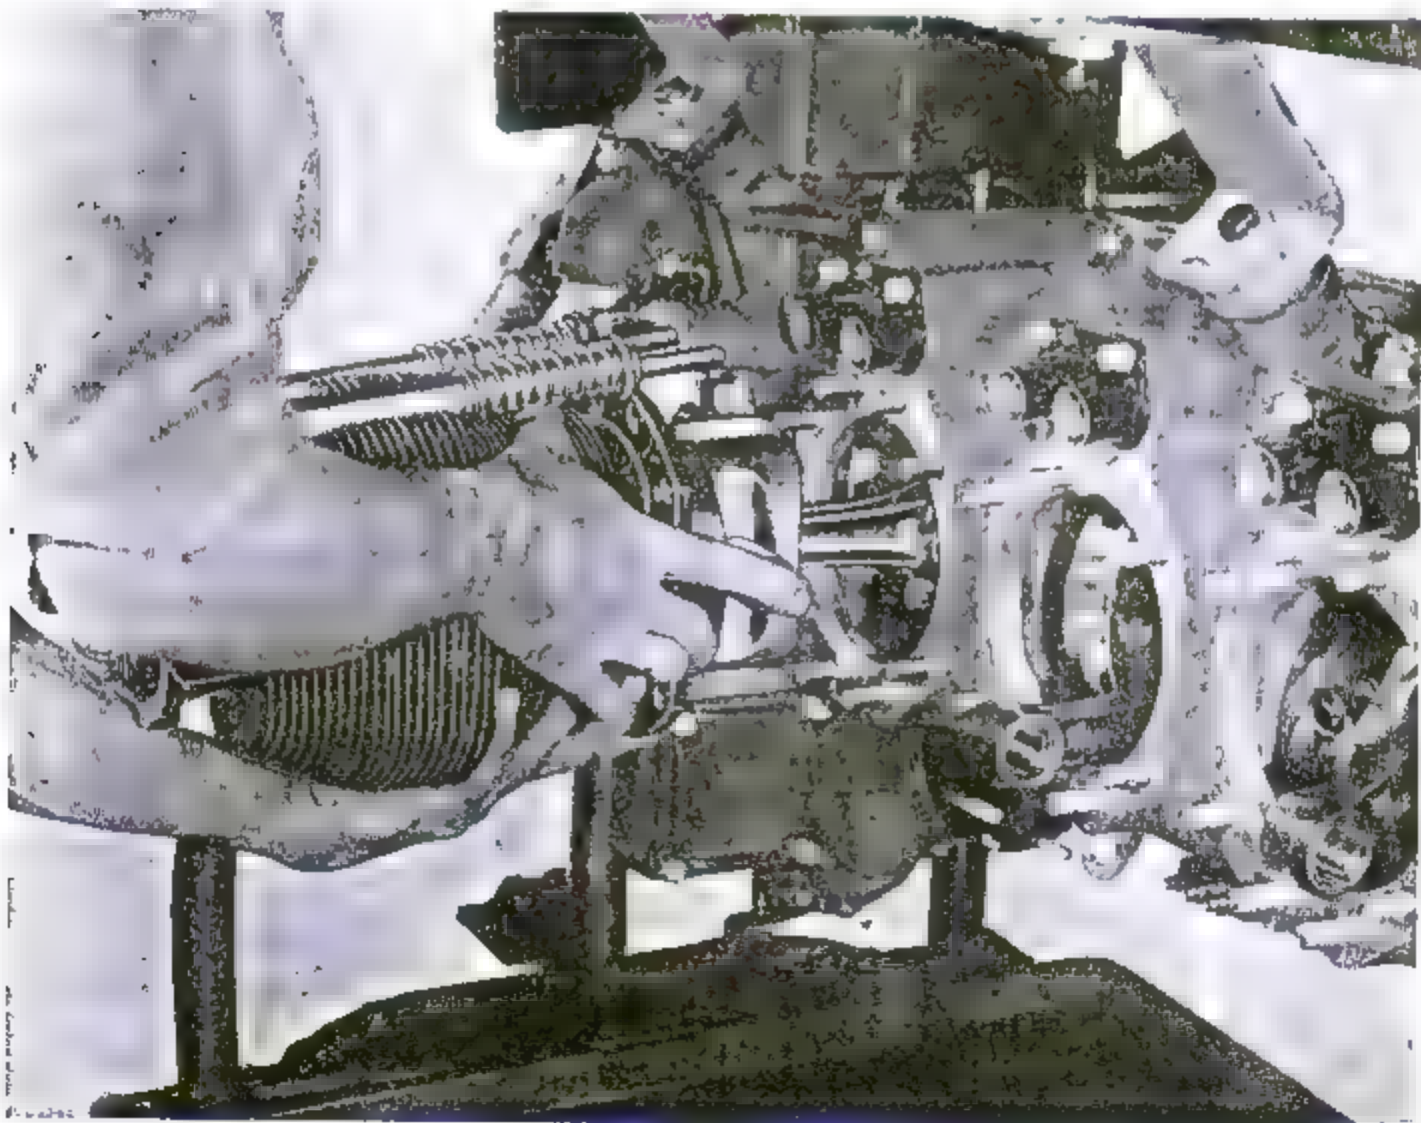

Figure 7-5. Installing Cylinder, Piston and Valve Train Assembly
b. Lubricate rod housing. Push piston pin out of piston just enough to clear rod, and install piston and cylinder assembly, as illustrated in figure 7-5, by pushing pin through rod bushing and cylinder into crankcase.